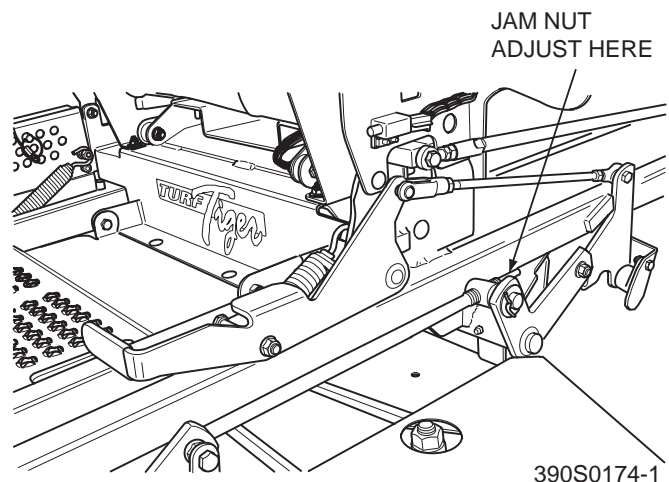

Figure 6-6. Cutter Deck Level Adjustment
1. Loosen the jam nut on both adjusting rods. See Figure 6-6.
2. Using a wrench on the jam nut, turn the adjusting rods until the proper pitch is obtained on both the RH and the LH side of the cutter deck. Tighten both jam nuts. See Figure 6-6.